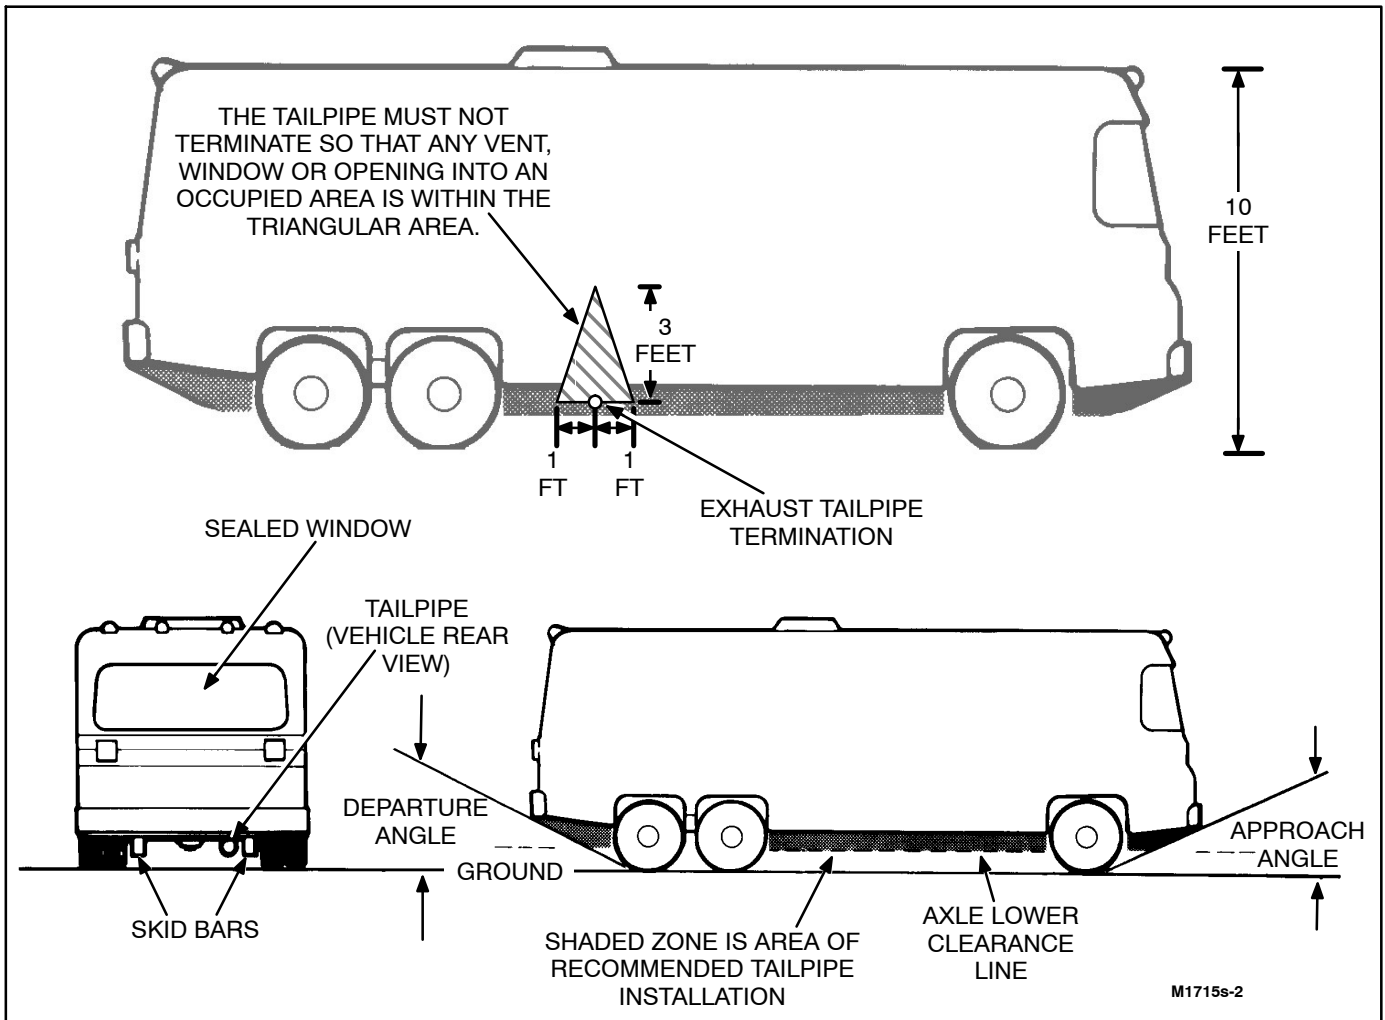

FIGURE 6-1. TAILPIPE INSTALLATION
The exhaust system must extend a minimum 1 inch (25 mm) beyond the perimeter of the vehicle. Do not terminate the exhaust tailpipe under the vehicle. Be aware that any vent, window, storage compartment or opening that can be opened and that is not permanently sealed from the vehicle living space or work space can be an avenue for carbon monoxide to enter the vehicle. The tailpipe must not terminate so that any vent, window, or opening into the living area (RV) or the work area (commercial vehicle) is within the triangular area shown in Figure 6-1. This area is defined as an isosceles triangle with a height of 3 feet measured from the center of the tailpipe termination and with a base of 2 feet measured one foot horizontally from the center of the pipe in either direction.
⚠WARNING *Exhaust gas is deadly and presents the hazard of severe personal injury or death. Do not terminate an exhaust pipe under the vehicle. The tailpipe must not terminate so that any vent, window, or opening into the living area is within the triangular area shown in Figure 6-1. Keep all openings closed when the generator set is running.*
To reduce the chance of damaging the tailpipe and emitting exhaust gases under the vehicle, make certain that no part of the exhaust system intrudes into the departure angle or approach angle of the vehicle, unless it is protected by a skid bar or other protection device. The shaded areas in Figure 6-1 illustrate typical mounting locations.